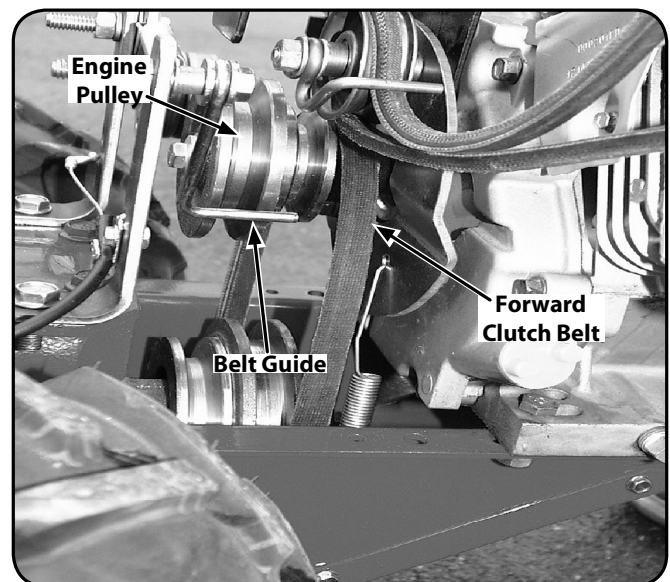
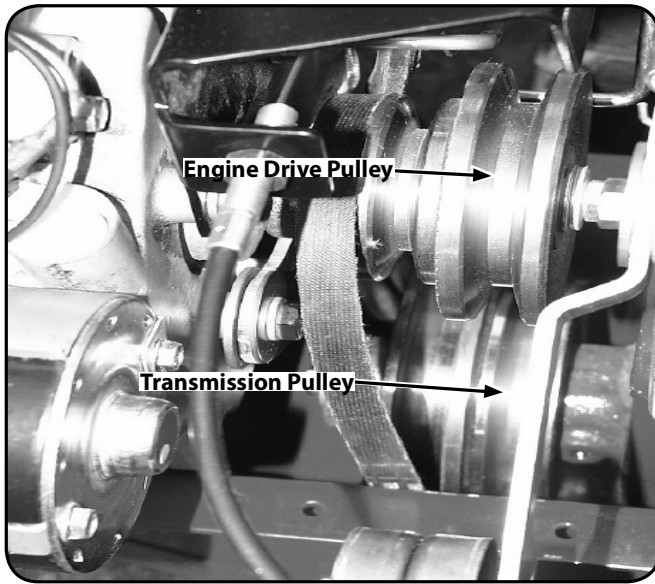

Figure 7-3
Figure 7-4
5. Slide the belt off the engine pulley, away from the engine, out from under the belt guide and completely off the pulley. See Fig. 7-3.
- Slip the belt off the front of the transmission pulley. See Fig. 7-4.
- Insert the bottom half of the belt into the smaller, rear-most groove of the transmission pulley. See Fig. 7-4. Now slip the top half of the belt under the belt guide (See Fig. 7-3) and onto the large groove of the engine drive pulley. See Fig. 7-4.